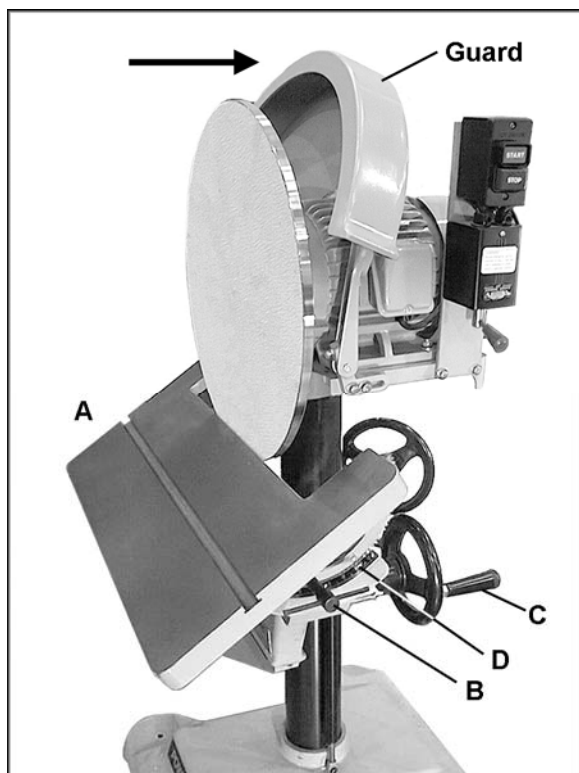

Figure 6
2. Lower the table all the way and push back the guard (refer to Figure 6).
The work table (A, Figure 6) can be tilted 30 degrees forward and 45 degrees backward.
1. Loosen the handle (B, Figure 6) and rotate the handwheel (C, Figure 6) clockwise to tilt table backward, and counterclockwise to tilt table
forward. The pointer on the trunnion scale (D, Figure 6) indicates the angle.
2. When table is positioned, re-tighten handle (B, Figure 6).
1. Lower the table as far as possible, and push back the guard. See Figure 6.